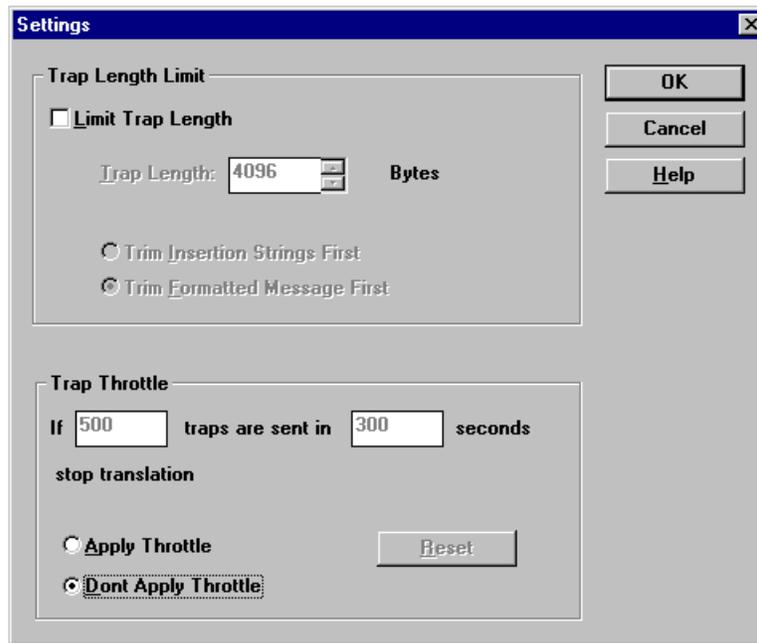

Figure 155. The Event to Trap Translator
6. Select the **Settings...** button. This will give you a dialog box similar to Figure 155 on page 198.